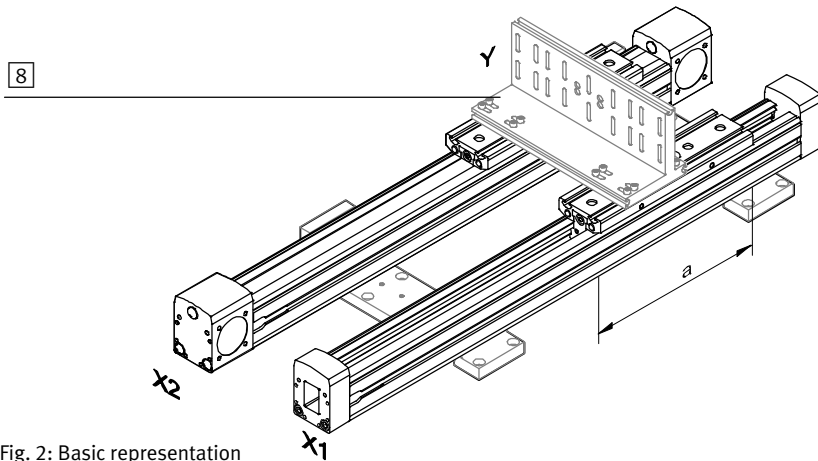

Fig. 2: Basic representation
3. Place the bridge (see Fig. 2) and the work load onto the slides of the FDG-...-ZR-RF and the drive axis as follows: